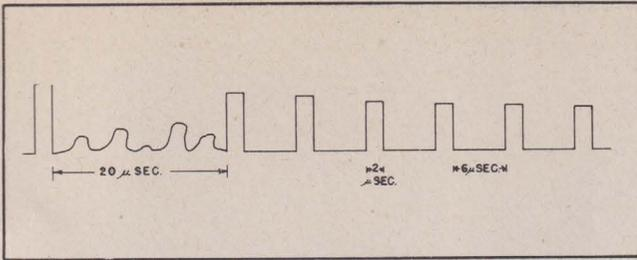

Figure 2-1. Signals from Signal Generator Appearing on Oscilloscope TS-34/AP
Rotate the "IMAGE SIZE" knob of the oscilloscope counterclockwise until the signals are of suitable magnitude. The signals from the signal generator will appear on the oscilloscope as follows: No signals from the signal generator appear for a short time after the transmitter pulse appears, although radar signals may be present; then there is a train of pulses. (See figure 2-1.) Be sure that the frequency of the signal generator (normal position) is identical to the transmitter frequency.
exact locations of units are dependent upon the design of the particular plane in which Radio Set AN/APS-10 is to be installed. (See figures 2-1 to 2-11.) There are, however, certain instructions which must be followed in all types of installation.
(5) SYNCHRONIZER SN-17/APS-10.—Because the majority of the controls to be adjusted during flight are located on the synchronizer, this unit (see figure 2-1) must be installed in the position most convenient to the operator. Note from figure 5-6 that the unit may be installed with the control panel either horizontal or vertical. Bolt Mounting MT-293/APS-10 to a solid portion of the airplane structure by means of six 8/32 x 3/4-inch round head machine screws, allowing ample space for connecting cables at the bottom or rear of the unit.